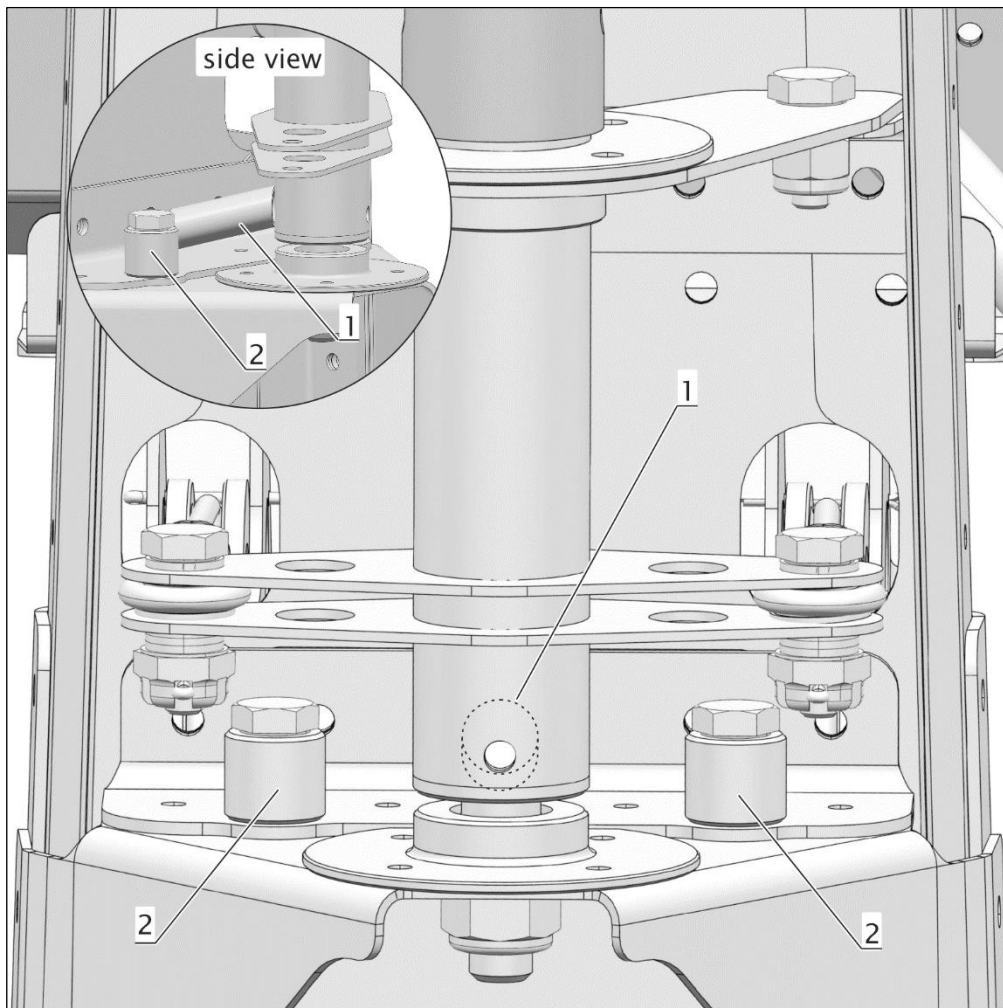

Figure 8
Rudder travel stops (2, Figure 8) are made of a bolted spacer, limiting the travel of the tube (1), which is welded on the rudder bottom tube.